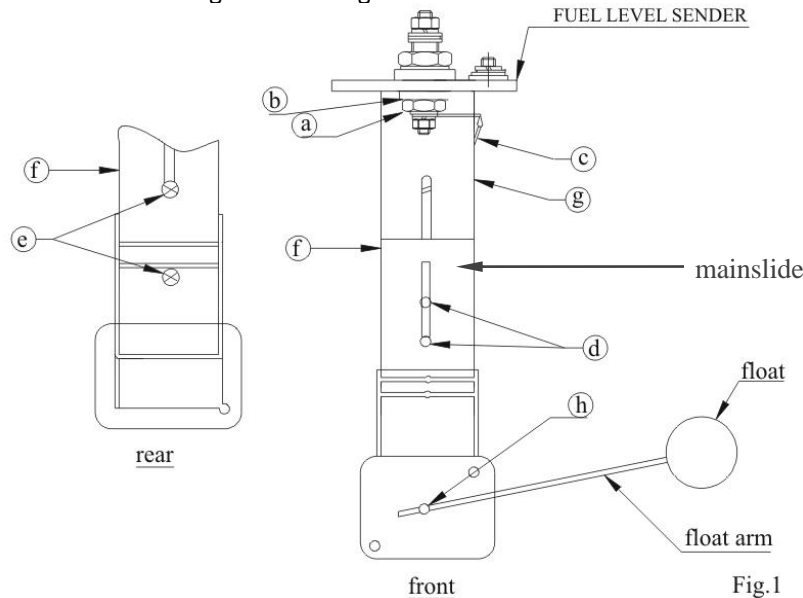

Figure 3 - Sending Unit Breakdown
As shipped, the sending unit will work for tanks with depths greater than 15.5". For depths greater than 15.5", adjust the float pivot depth by loosening the screws marked "d" on figure 3 and sliding the float pivot to the depth listed in column B of figure 1. Once the float pivot depth is set, skip to step 5 of the instructions below. For tanks with depths less than 15.5", follow the instructions below for converting the sending unit to work.
2. Remove the screws "d" from the mainslide. The mainslide is the portion the sensor attaches to and is shown above in Figure 3. The mainslide and the screws removed will not be used during reassembly and can be discarded.
6. Insert the float rod until the dimension listed as "C" in the chart above in Figure 1. Tighten the screw securely and remove any excess rod with a bolt cutter or similar tool. Take care not to damage the assembly. **NOTE:** Make sure the float arm is installed as shown in Figure 3. If installed backwards, the fuel gauge will indicate "FULL" when the tank is empty and "EMPTY" when the tank is full.